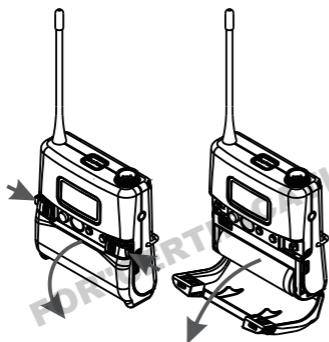

Fig. 26
1. Press the side hooks to open battery compartment. Remove the battery carefully, Fig. 26.